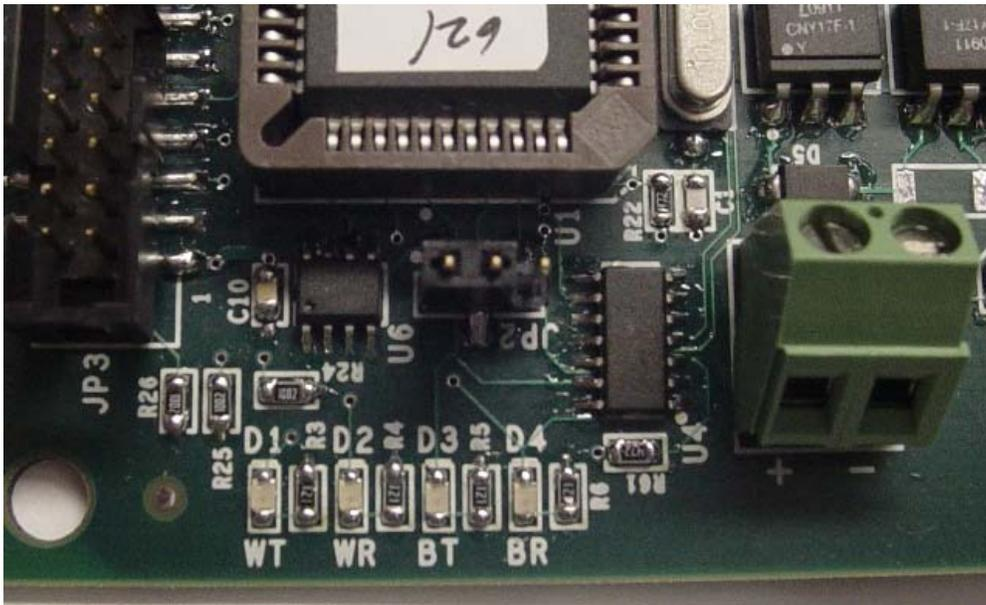

Figure 3
3. Verify that the communication LEDs are flashing rapidly on the 621 board. See Figure 3. Refer to page 12 for troubleshooting diagnostics.